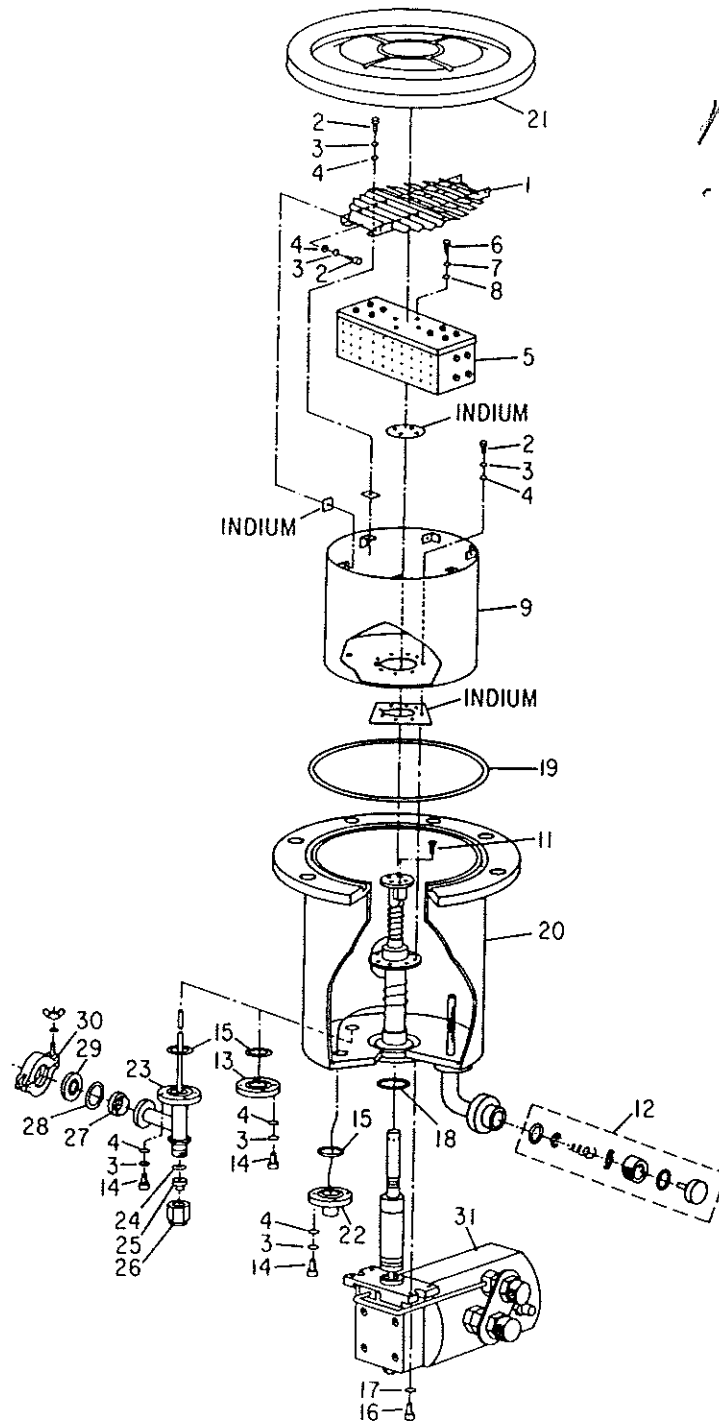

Figure B.2 Exploded view of Cryo-Torr 7 Cryopump
Legend: Figure B.2
*Not shown in Figure B.2